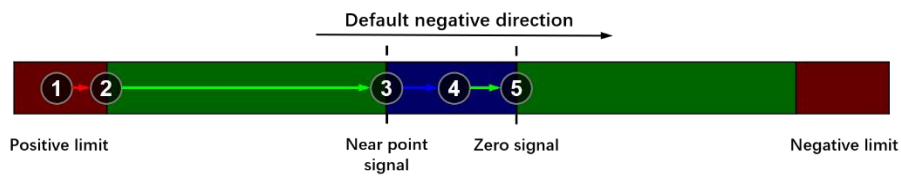

Figure 15.15.4
- ①→②: Workbench accelerates to returning speed in negative direction.
- ③→④: Workbench enters zero signal area and decelerates to 0.
- ④→⑤: Workbench accelerates to crawl speed in opposite direction.
- ⑥: Workbench stops at side of zero signal area, if Z-phase is selected, workbench stops at Z-phase signal.
- Near-point signal mode, as show in Figure 15.15.4: